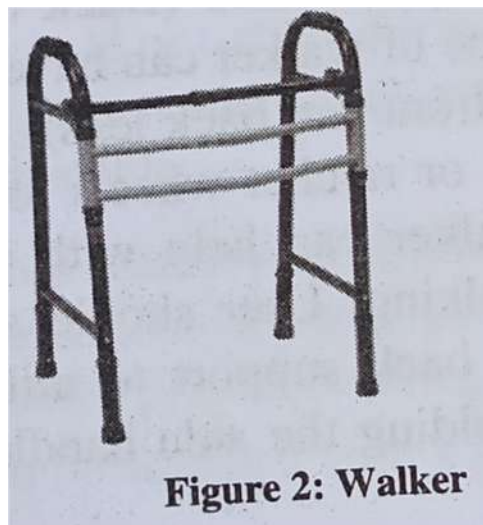

Figure 2: Walker
4) **Walker:** These are light, movable devices of metal tubing, are around waist high figure 2), and stand on four robust, widely spaced legs.